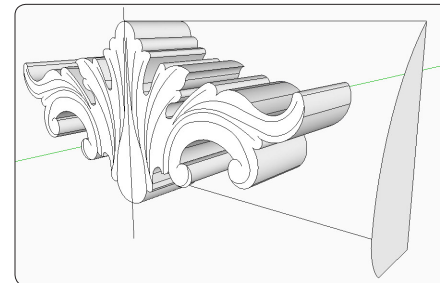

Figure 95. Make a shape to intersect with the carving, to give the carving its proper profile.
Step 3 Seen in profile, the carving is shaped to be fat at the bottom and thin toward the top. To give your design that profile, make an arc shape like the one shown in Figure 95 to serve as a cutting plane.